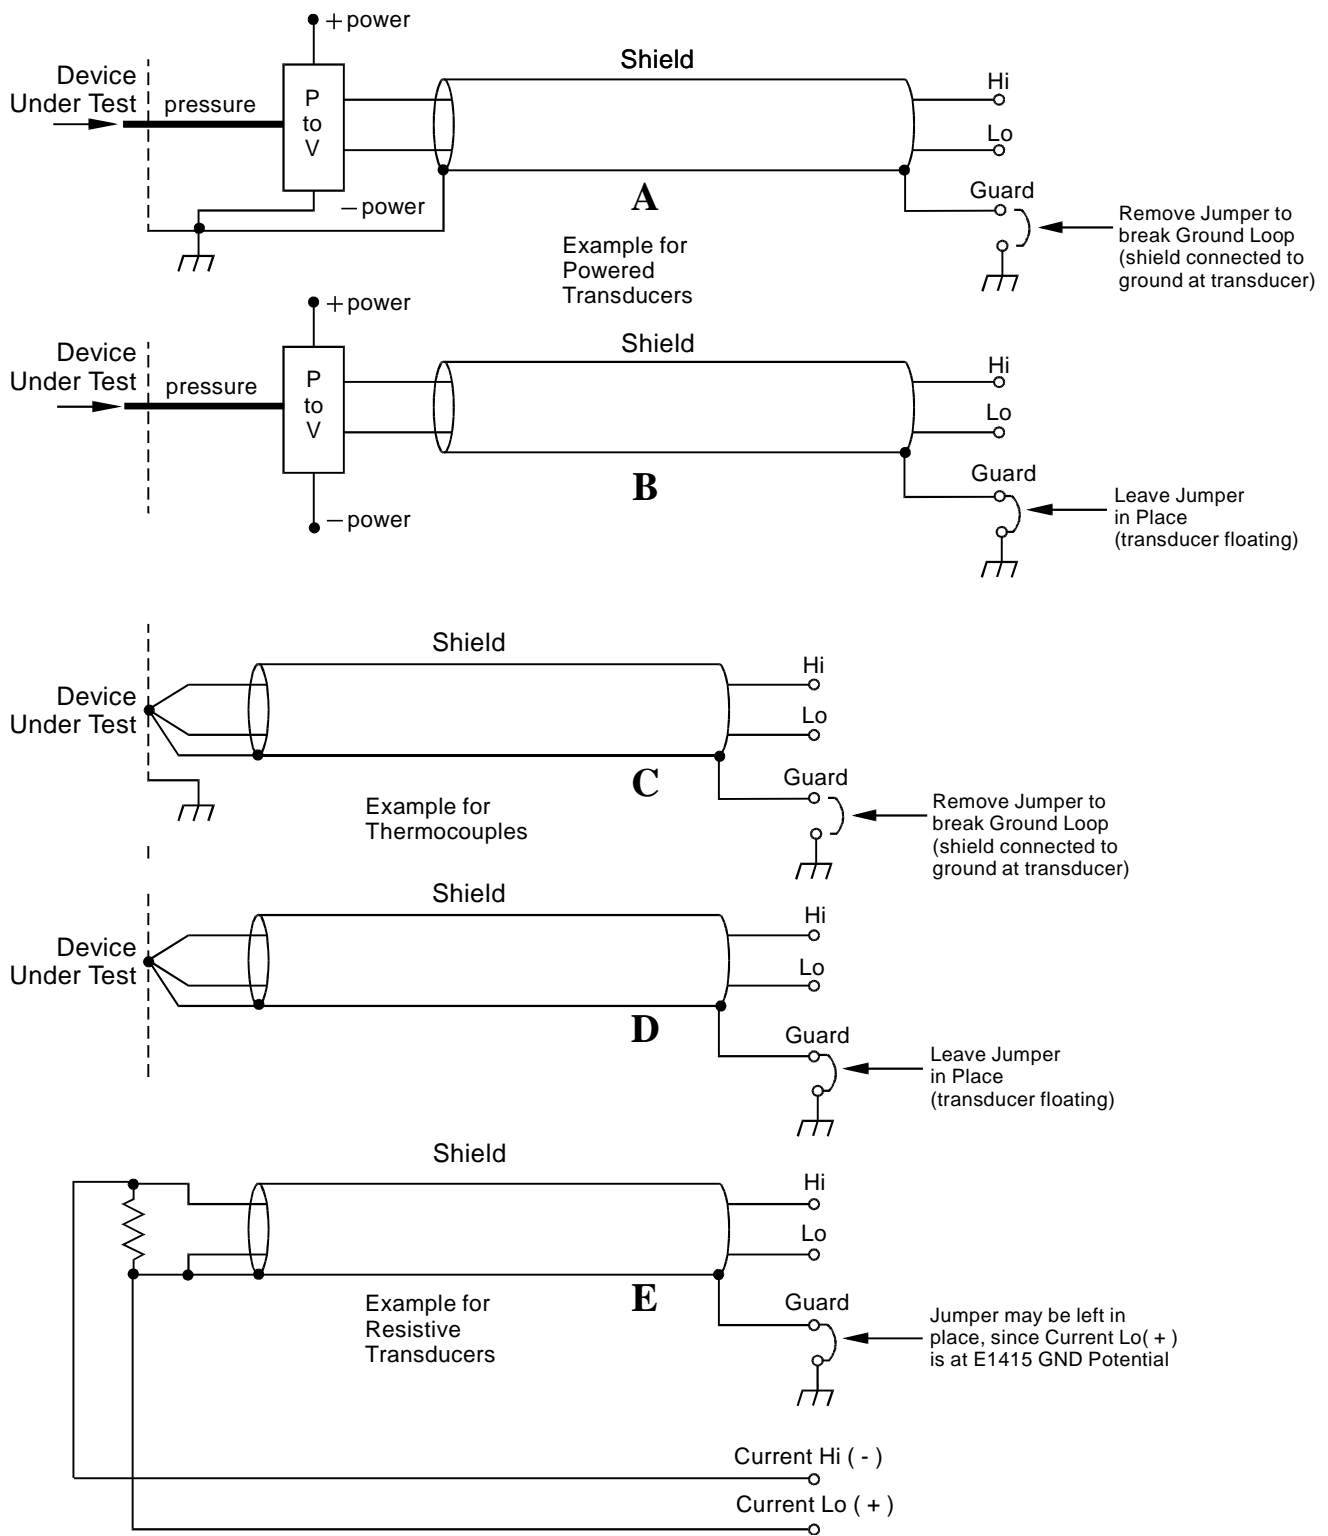

Figure 2-9. Preferred Signal Connections
For any A/D Module to scan channels at high speeds, it must use a very short sample period ($<10\mu\text{second}$ for the HP E1422). If significant normal mode noise is presented to its inputs, that noise will be part of the measurement. To make quiet, accurate measurements in electrically noisy environments, use properly connected shielded wiring between the A/D and the device under test. Figure 2-9 shows recommended connections for powered transducers, thermocouples, and resistance transducers. (See Appendix D page 415 for more information on Wiring Techniques).
- a. **Grounded Transducer with shield connected to ground at the transducer:** Low frequency ground loops (DC and/or 50/60Hz) can result if the shield is also grounded at the Terminal Module end. To prevent this, remove the GND-GRD jumper for that channel (Figure 2-9 A/C).
- b. **Floating Transducer with shield connected to the transducer at the source:** In this case, the best performance will most likely be achieved by leaving the GND-GRD jumper in place (Figure 2-9 B/D).